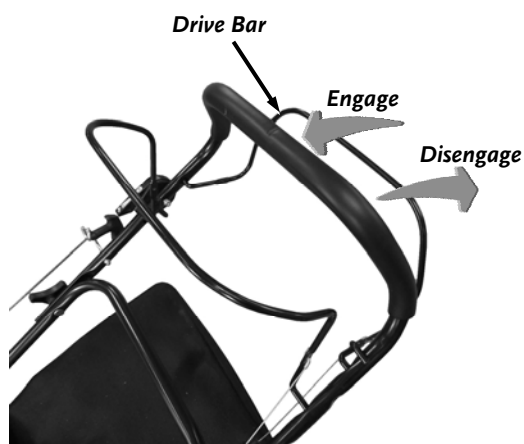

Figure 14
1. Pull the Drive Bar to Handle and hold (*Figure 14*).